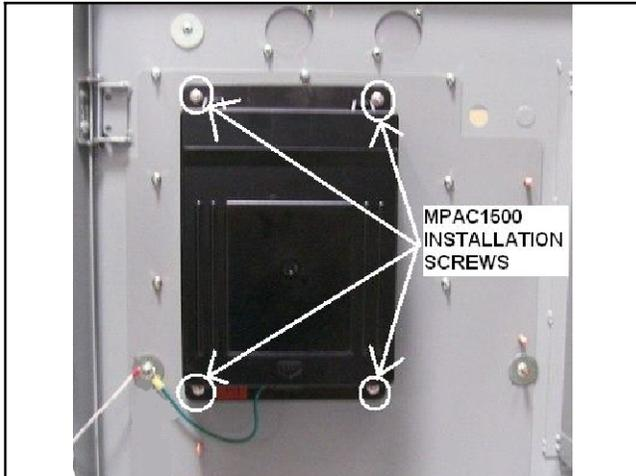

Figure 17 Controller Assembly Installation
16. Install the MPAC 1500 controller assembly (GM46733-1) onto the conversion kit mounting plate using four nuts X-6210-2. See Figure 17.